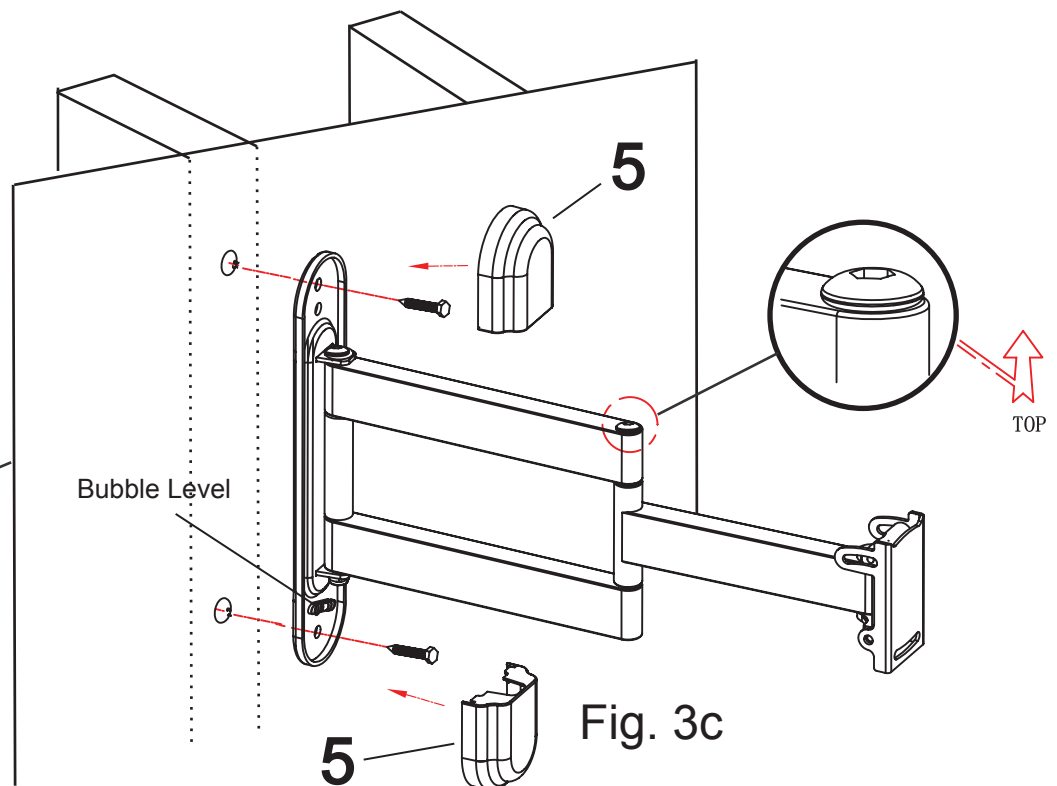

Fig. 3c
4. Use the Socket tool (Q), the two long bolts (A), and Washers (C), to attach the wall mount to the wall. Do not use wall anchors in wood stud walls.
5. Use the bubble level (7) on the front of the mounting plate to level the wall mount, repositioning as necessary, then securely tighten the bolts. Do not overtighten.
6. Press the covers (5) on to each end of the Wall plate (Fig. 3c).